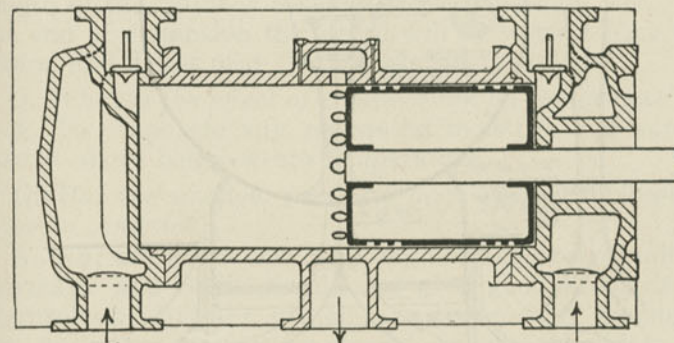

Fig. 414. Lengthwise Section of Unaflow Cylinder.
A. By having the steam enter at one end of a double-ended or double-acting cylinder (preferably after having heated the surface of the head); then pass through an admission valve placed as far as possible from the supply pipe in the cylinder head; then after doing useful work, driving the piston first by direct pressure, then by expansion, exhaust through ports at the far end of the stroke; i. e., at the middle of length of the double-acting cylinder. (See Fig. 414.)